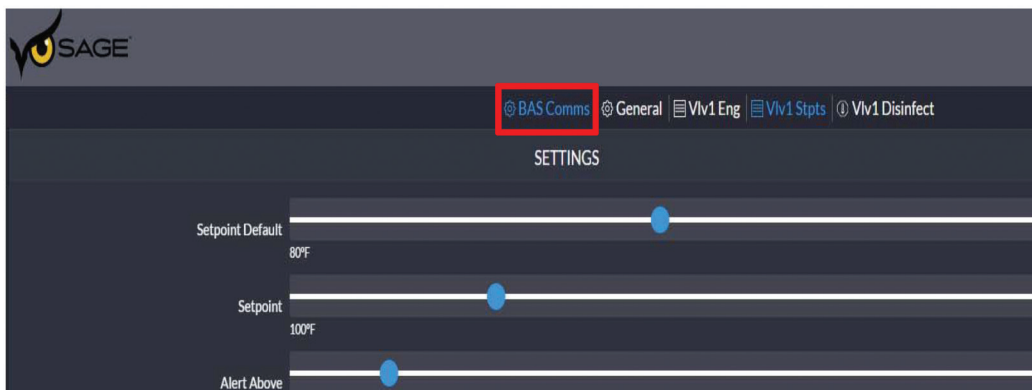

Figure 2: Initial System Graphic Page
1. Once connected to the SAGE® BS web browser and the initial system graphic page is up click on the icon labeled '**BAS Comms**' (see Figure 2)